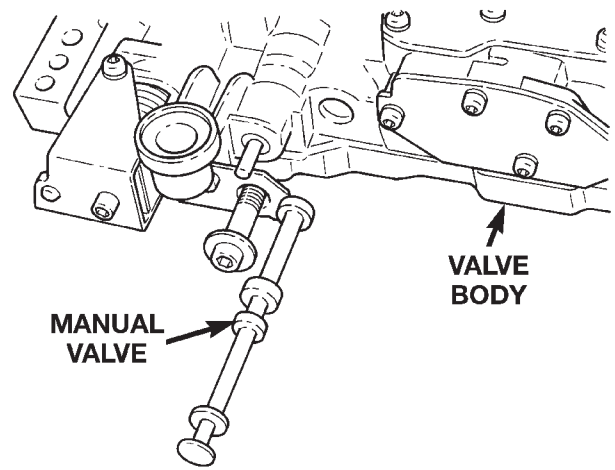

Fig. 43 Manual Valve
- (7) Remove manual valve from valve body (Fig. 43).